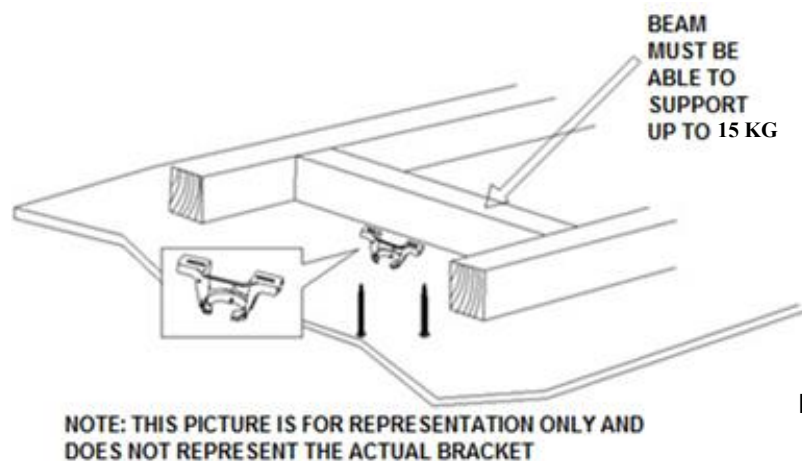

Fig. 2
- Install the hanging bracket to the ceiling joist or structure that is capable of carrying a load of at least 15 kg, with two long screws provided. Ensure at least 30mm of the screw is threaded into the support. (Fig. 2)